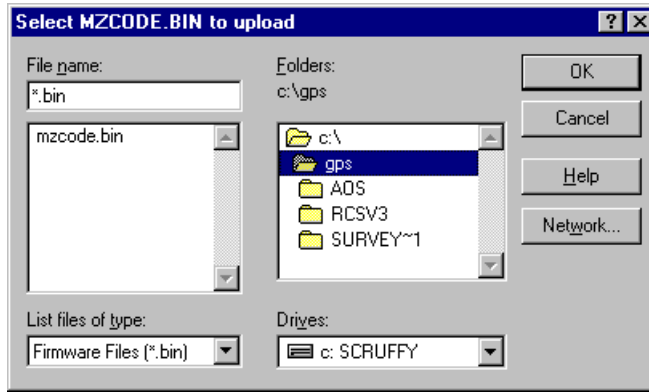

Figure 3.2: Typical File Selection Dialog Box
5. Click on **Upload**, then click on **Firmware** or **Options**, as applicable. The Select dialog box opens, similar to Figure 3.2.